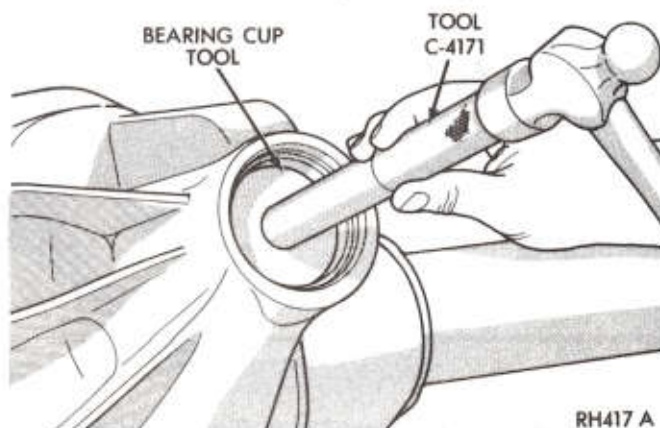

Fig. 20—Installing Outer Pinion Bearing Cup
(1) Using Tool C-4203 and Tool C-4171 drive the outer pinion bearing cup into the carrier (Fig. 20).